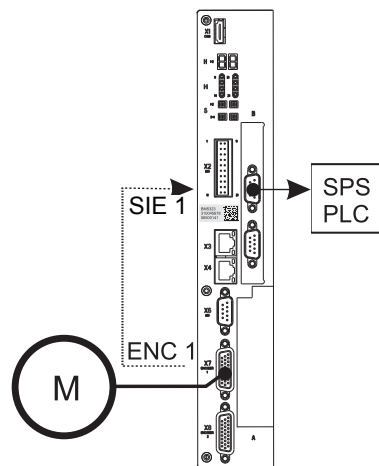

Figure 16: Connection diagram SSI encoder emulation SIE
Depending on the desired application you now are able to connect the incremental encoder emulation with further system components (see ►Figure 16◄ on page 38).
- 2 Connect an output of the SSI encoder emulation SIE with the encoder input of the master control (see example 1 in ►Figure 16◄ on page 38).
- 1 Wiring of the **incremental encoder emulation IEE** or **SSI encoder emulation SIE** is done properly (IEE as shown in example 1 or 2 in ►Figure 14◄ on page 35 and SIE as shown in example 1 in ►Figure 16◄ on page 38.